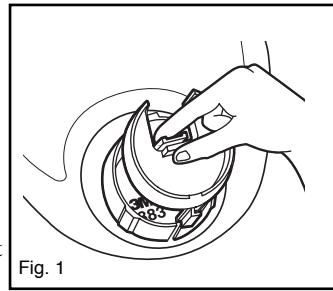

Fig. 1
1. Squeeze the locking tab at the back of the air director 6881 and pull back to disengage from the DIN port base 6883. (Fig. 1)
4. Align the lug at the bottom of the air director 6881 with the slot at the bottom of the DIN port base 6883. (Fig. 1) Slide forward and press the center knob until the locking tab clicks into place.
1. DIN Port (6884) and Pressure Demand (6874) adapter assemblies only: Squeeze the locking tab at the back of the 6881 Air Director and pull back to disengage from the 6883 DIN port base. (Fig. 1)